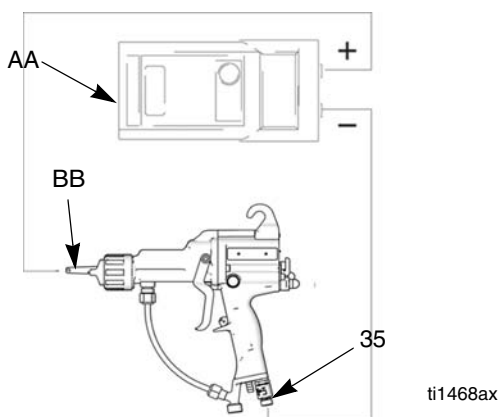
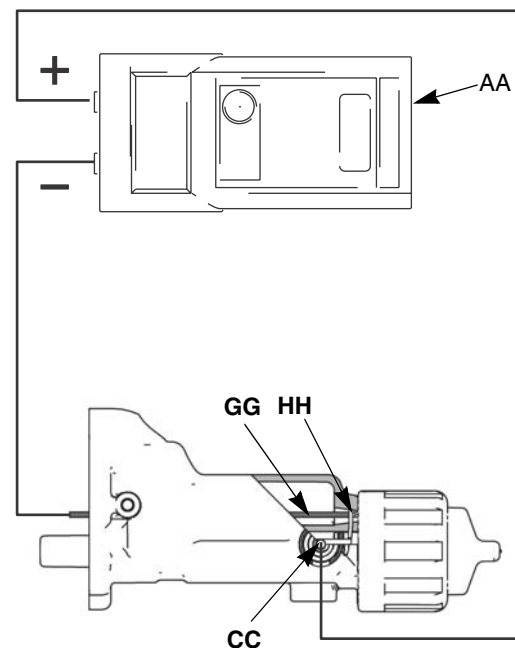

Fig. 8. Test Total Gun Resistance
Fig. 12. Test Barrel Resistance
Megohmmeter Part No. 241079 (AA-see FIG. 8. through FIG. 12.) is not approved for use in a hazardous areas. To reduce the risk of sparking, do not use the megohmmeter to check electrical grounding unless:
Measure resistance between the charging probe tip (BB) and the air swivel (35) (see FIG. 8.); it should be 90-130 megohms. If outside this range, go to the next test. If in range, refer to **Gun Repair** on page 27 for other possible causes of poor performance.
1. Insert a conductive rod (GG) into the gun barrel (removed for the power supply test) and against the metal contact (HH) in the front of the barrel.
2. Measure the resistance between the conductive rod (GG) and the charging probe socket (CC). See FIG. 12. The resistance should be 15-30 megohms.